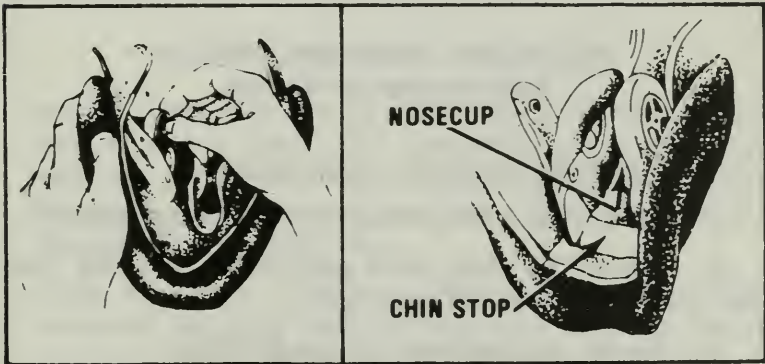

Figure 252. Install filter. Figure 253. Seating the chin stop.
i. Grasp the corner of the filter first inserted into the mask, and work the filter into place (Figure 252).